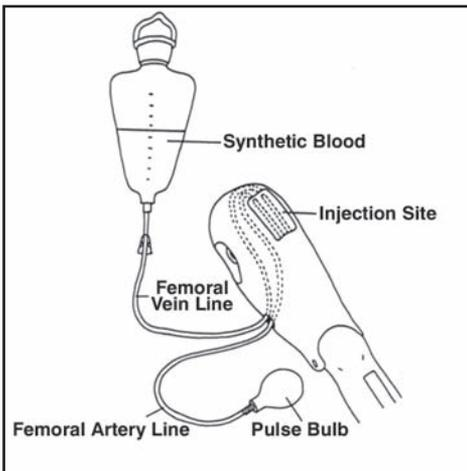

Figure 7
3. Attach the fitting end of tubing to the access site tubing (Figure 7).